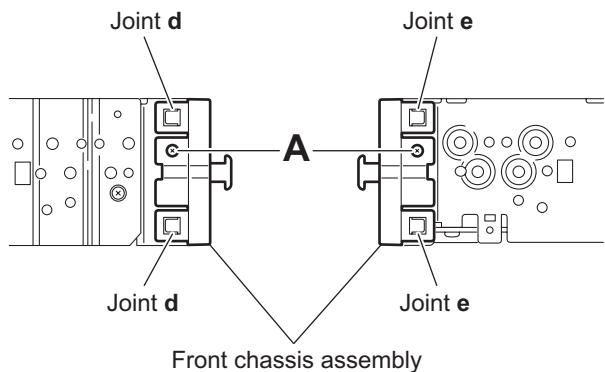

Fig.3
3.1.3 Removing the front chassis assembly (See Fig.3)
(See Figs.3 to 5)